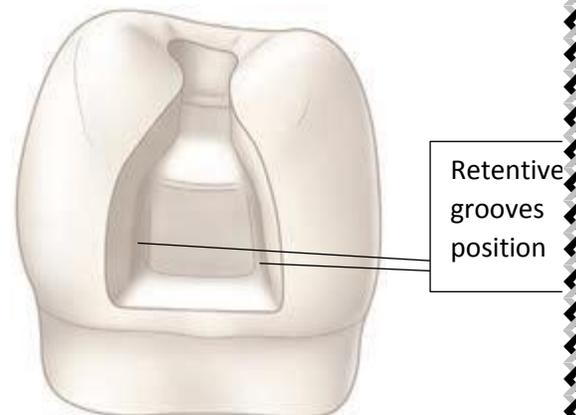

fig 5: proximal view of CIII box
- The occlusal convergence of the box (from proximal view) fig5.
- Retentive grooves or locks in the axiofacial and axiolingual line angle fig5.